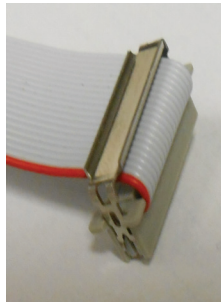

Figure 12
- 6.2 Place the strain relief in the connector over the cable, sliding the strain relief into the slots of the connector. (See Figure 12)